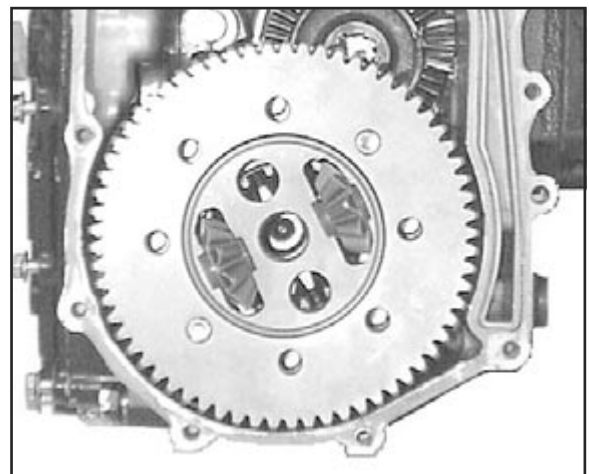

Fig. 65, Final Pinon Gear
12. Remove final pinion shaft assembly. (Fig. 65)